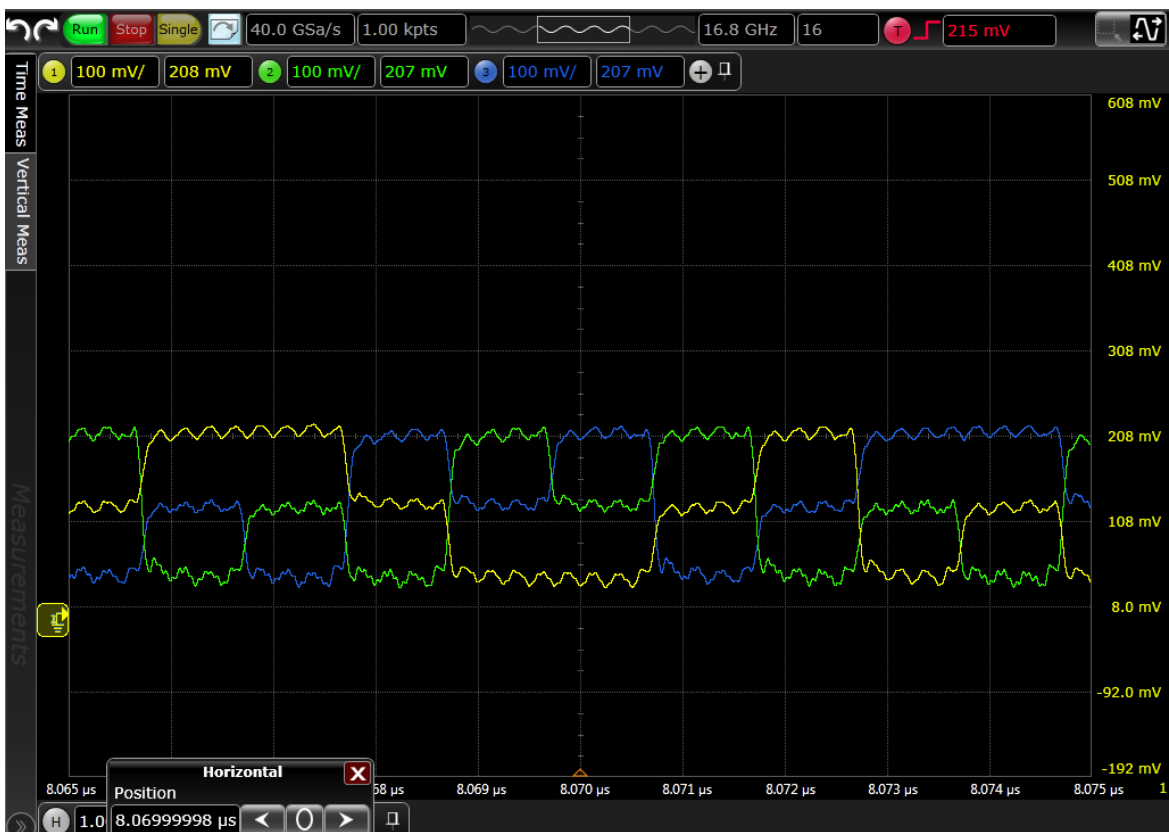

Figure 4 Common mode interference on high speed
All the images (Figure 4 to Figure 7) of hysteresis show the single ended signal of wire A (channel 1 shown by yellow), wire B (channel 2 shown by green), and wire C (channel 3 shown by blue).
- Figure 4 shows the common mode interference with high speed switching rate of 1 Gbps and the frequency 4 GHz.